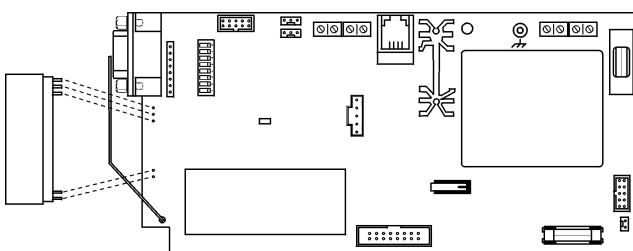

Figure 3: Plugging in the On-Board Transmitter
5. To support the INF-WSM, the infinite's main board must have the plug-in transmitter installed. Plug the on-board transmitter into the infinite control panel's main board as shown in Figure 3.